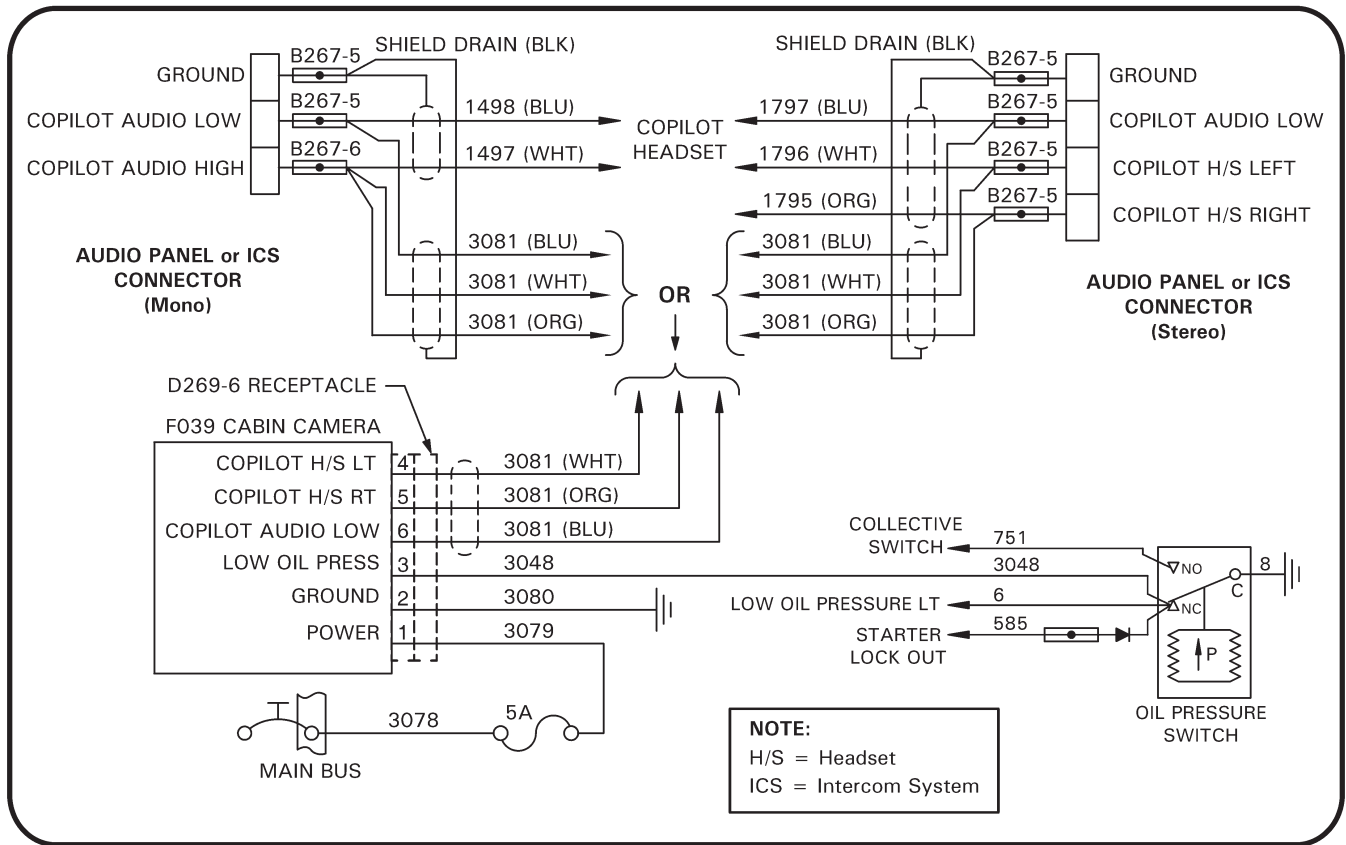
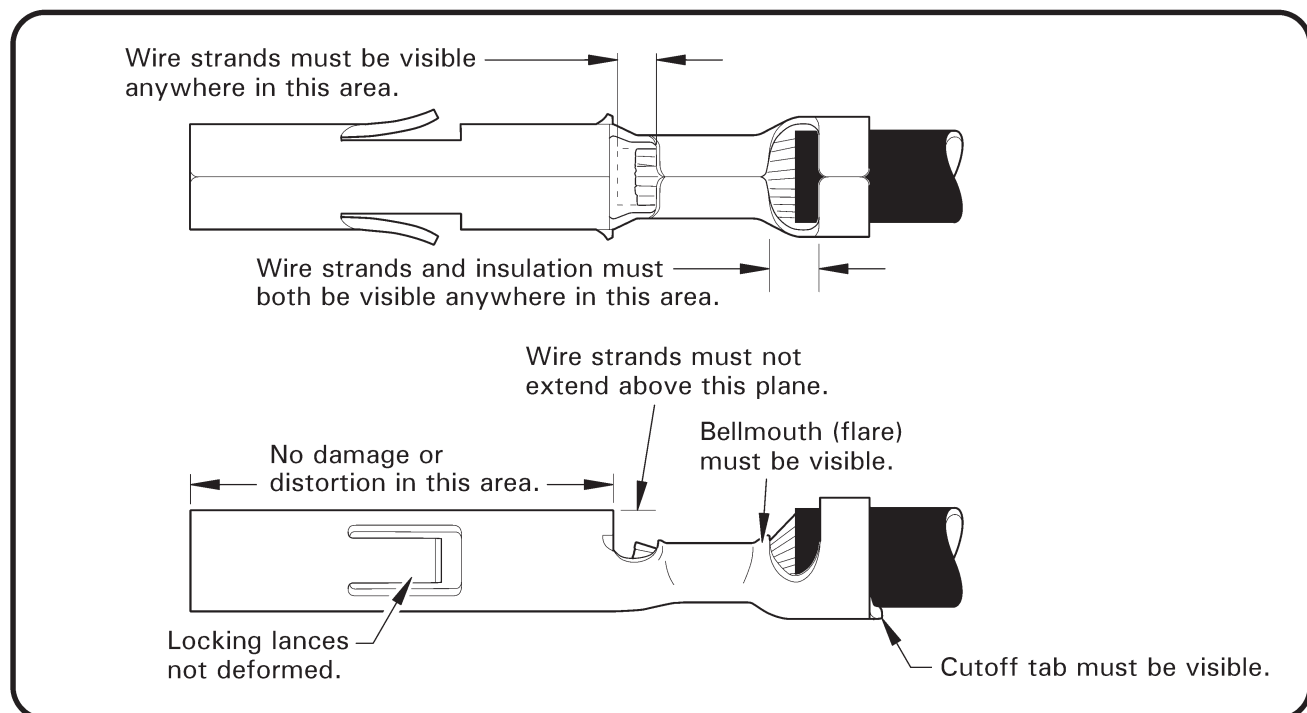

FIGURE 2 Wiring schematic
FIGURE 6 Crimp inspection
4. Refer to Figure 2. Wrap end of wires (-3048), (-3079), (-3080), and (-3081) together with masking tape. Attach the bundled wires to a rigid metal rod and carefully route upward behind bulkhead foam insulation on LH (seat back) side, along existing wire bundle, then forward along left side of helicopter centerline, routing above 220-242400-09 clips (see R44 Illustrated Parts Catalog [IPC] Figure 63-11). Pull wires to match the length of existing wires and trim to length. Strip wire ends and crimp (6) sockets (provided with D269 receptacle) on wires. Inspect crimps per Figure 6. Install wire sockets in D269-6 receptacle per Figure 2. Verify security of wires.
11. Refer to Figure 2, and applicable audio system schematic in MM § 14.000. Disconnect ICS or audio control connector containing copilot headset audio wires. Loosen backshell's wiring clamp & attaching screws and slide backshell away from connector. Locate copilot audio wires in connector. Extract contacts from connector. Trim each wire halfway between nearest-ends of contact and solder sleeve terminator (A), removing heat shrink or sleeving as necessary; retain wires with contact attached. Trim newly installed wire (-3081) to length using audio control connector as guide for length (B).
14. Refer to Figure 2, and applicable audio system schematic (ref. MM § 14.000), as required. Strip ends of retained wires (with contacts installed), copilot audio wires in harness, and newly exposed inner wires (-3081) ①. Install (3) B267-5 solder sleeve splices [or (2) B267-5 & (1) B267-6, as required], mating wire numbers/colors to: retained wires on one side of splice and copilot audio wires & wires (-3081) to opposite side of splice ②. Apply heat using heat gun to solder sleeve splices until solder sleeve is completely melted.